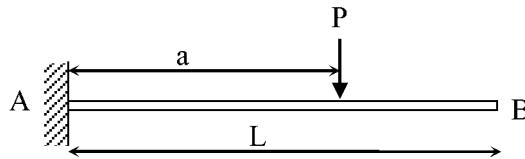

Figure Q7(a)
- 7 Figure Q7(a) shows a loaded cantilever beam of length L and flexural rigidity EI .